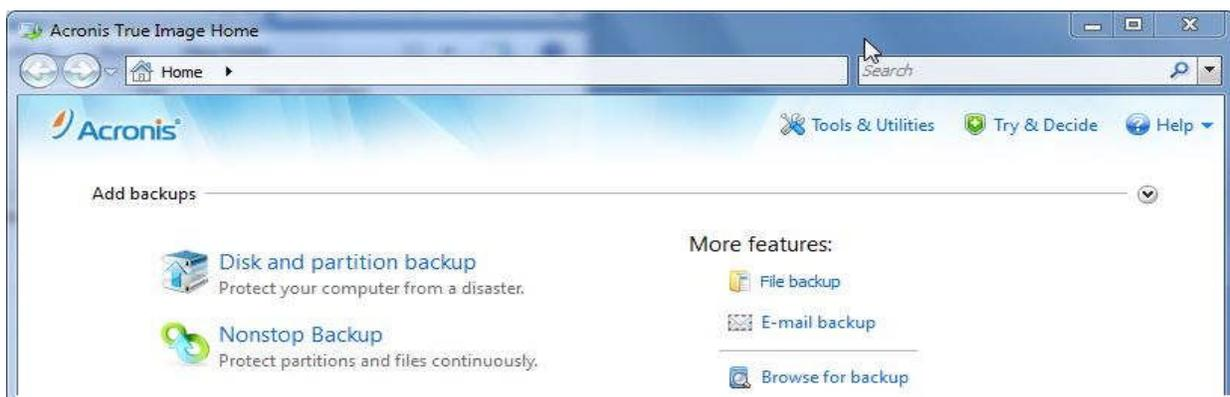

*Figure 6: Creating Duplicate Wes7 Boot Partition*
9. When Wes7 finishes formatting the drive, the display will look like Figure 6.